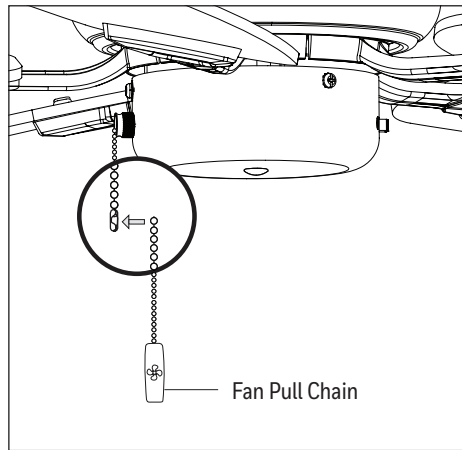

Figure 3.2
2. Attach the pull chain extension (Figure 3.2).